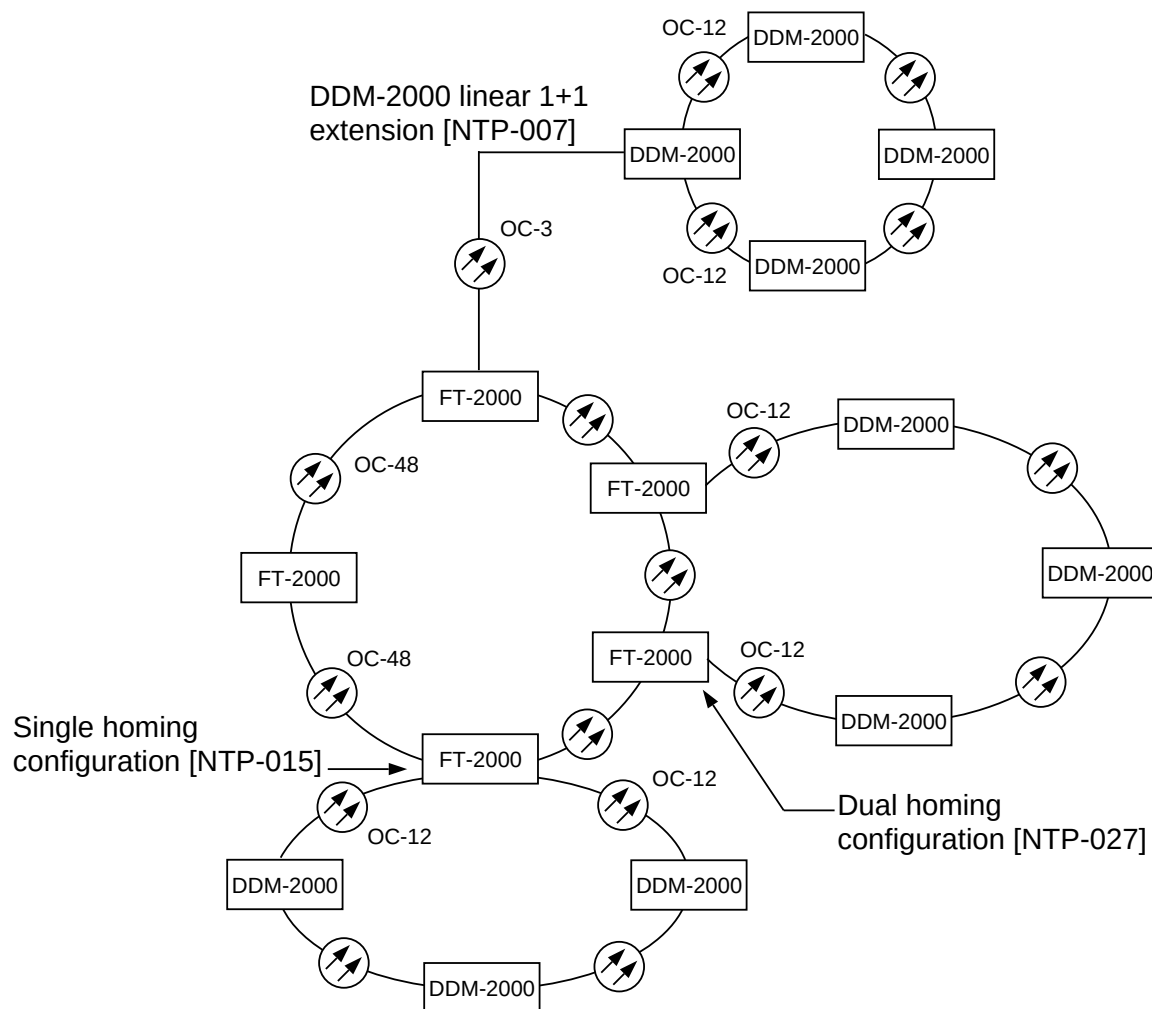
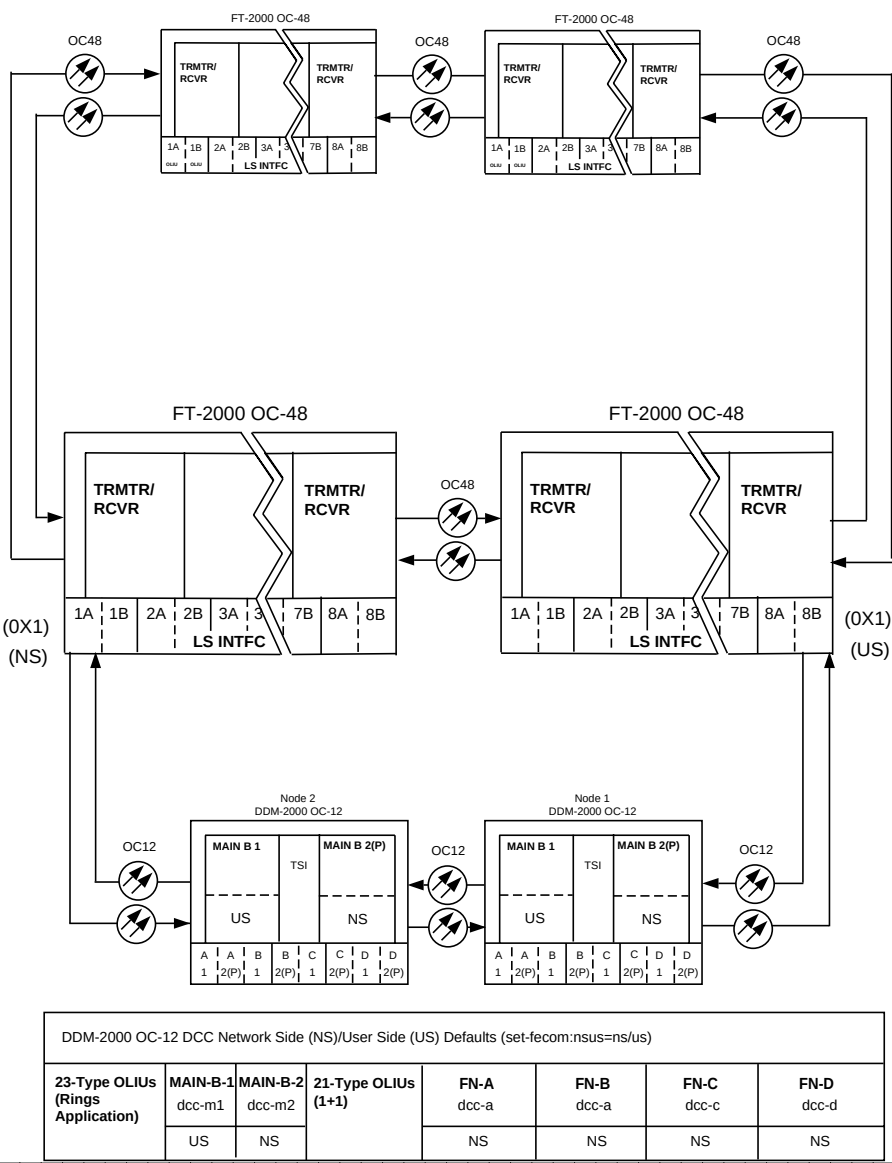

Figure 1. Example FT-2000 OC-48/DDM-2000 OC-12 Configurations
Figure 2. Example of Dual Homed User Side/Network Side Value Settings
The Network Side (NS)/User Side (US) parameters of the DDM-2000 OC-12 **set-fecom:** command and the FT-2000 DCC orientation must be set opposite at each end of the optical spans. For example, see Figure 2.
At the near end, remove the optical loop from the **MAIN OLIU** (for example in Figure 1, OC-12 node 1 **MAIN-B-1**) associated with the optical span being established. At the other end of the optical span, remove the optical loop from the associated **T939A OC12** circuit pack (for example, in Figure 2, FT-2000 **LS INTFC 1A** slot).
At the OC-3c terminating node of the circuit being established, determine which **FUNCTION UNITS** slots (**FN A, B, C, or D**) are being used for the service and what options are to be selected. For example, see Figure 1.